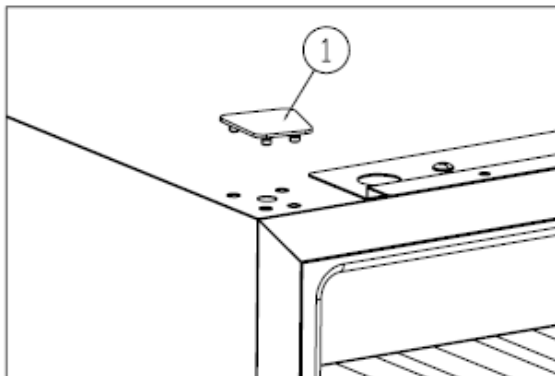

Figure 3
- ✧ Remove the germinal lid ① [Figure 3]